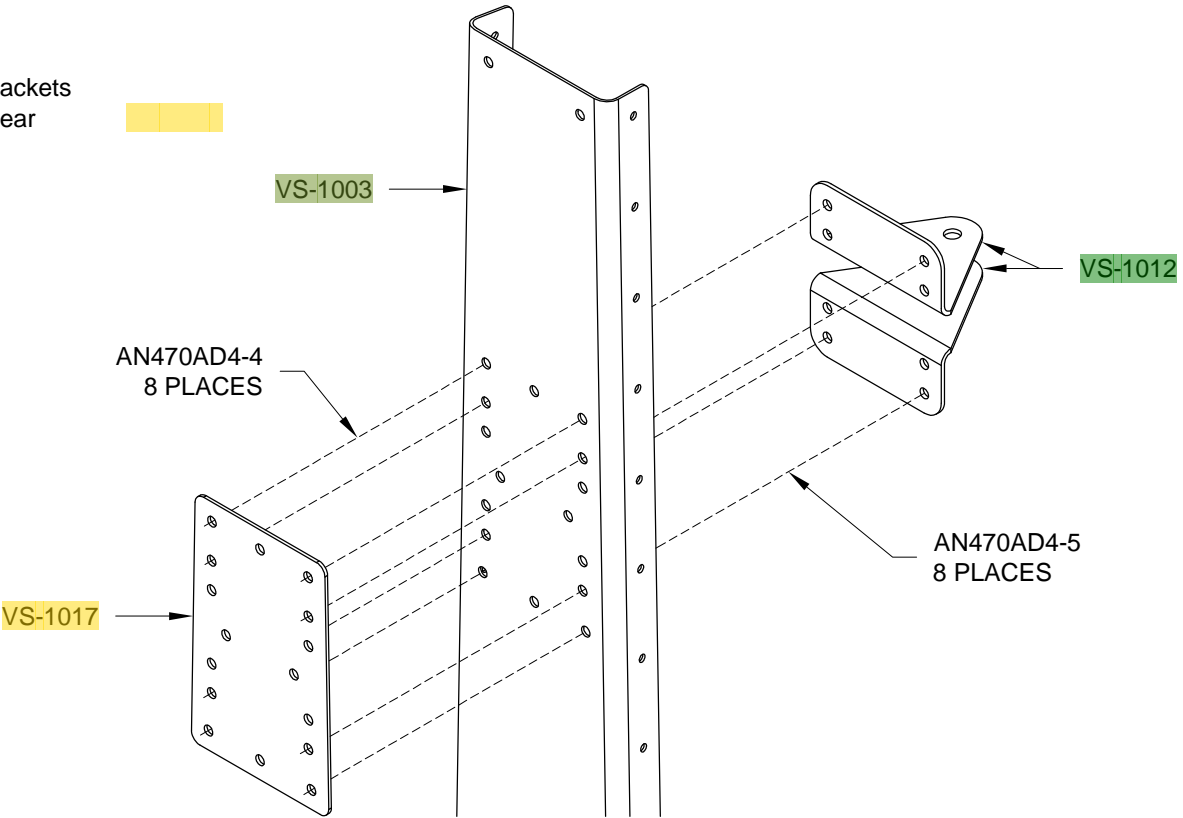

FIGURE 2: TOP RUDDER HINGE BRACKET AND HINGE DOUBLER RIVETS
Step 6: Reassemble the rest of the Rear Spar Assembly (except for the VS-01010-1 Bottom Rudder Hinge Bracket) as shown on Page 6-2, Figure 2. Make sure the countersunk holes at the bottom of the **VS-1008** Rear Spar Doubler are facing forward.